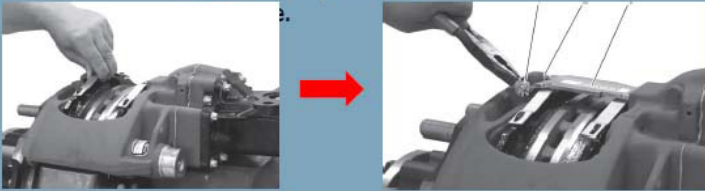

Figure 13 - Install the Brake Chamber
1.14. Refit the brake chamber, use the new actuator nuts (N8908945) provided (see Figure 13).